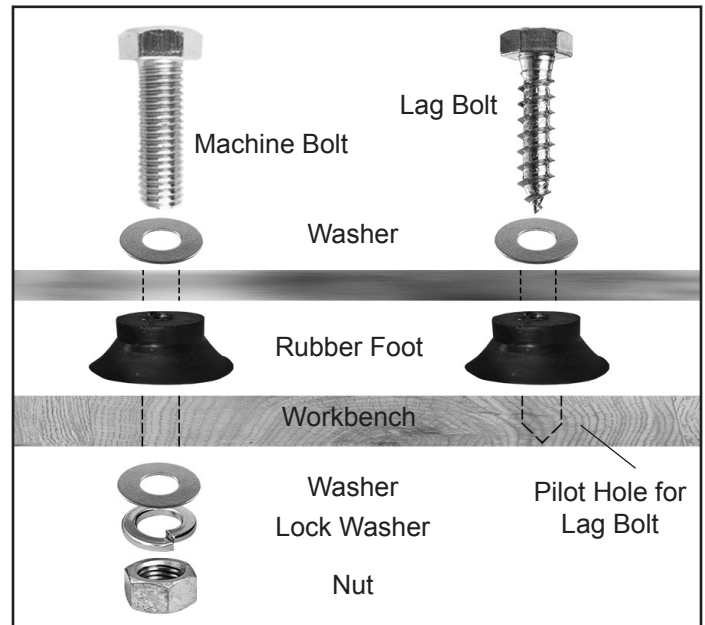

FIG. 15
- Use the four holes that are securing the rubber feet. The bolts will have to be removed and replaced with other fasteners to go through the sander's base and feet. See Figure 15 for illustrations of each method.
6. Using long bolts, washers, lock-washers and nuts; or lag bolts; (fasteners not supplied), secure the sander to the workbench. FIG. 15.